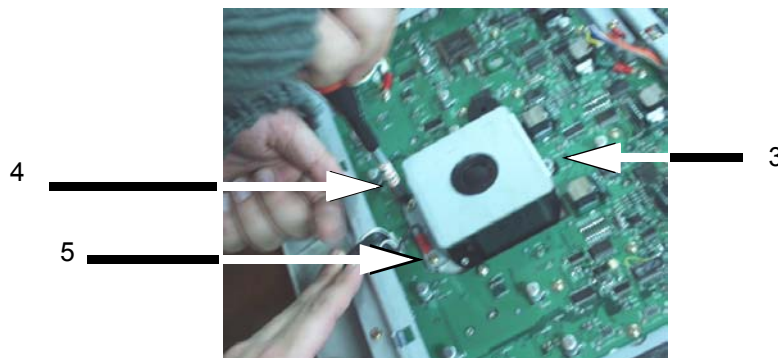

Figure 8-66 Unscrew 3 screws
- 2.) Unscrew three screws (3-5) to remove the Trackball Assy. Refer to section Figure 8-66 on page 24..